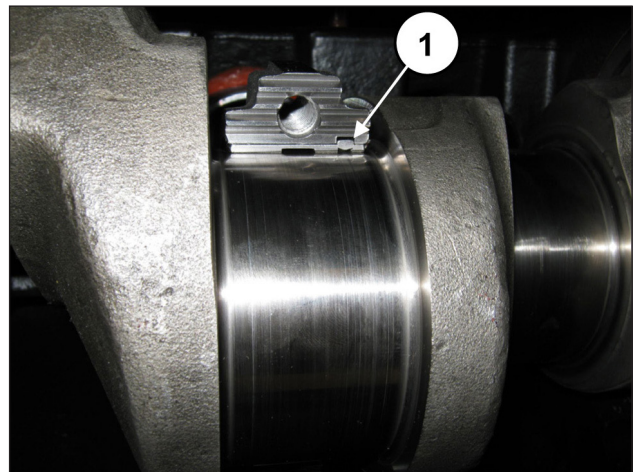

Fig. 66
For proper assembly of the half-bearings, ensure that the reference tab on the half-bearings are positioned in their housing on the half support (pos. ①, Fig. 66).